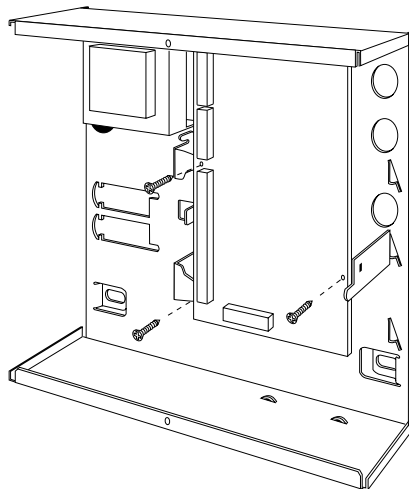

Figure 21. Fitting Control Unit PCB
6. If using the Junior Combi box then re-fit the PCB to the support pillars. Secure the PCB to the support pillars with the screws provided (Figure 21). Make sure that the bottom left corner of the PCB is seated on its support pillar.